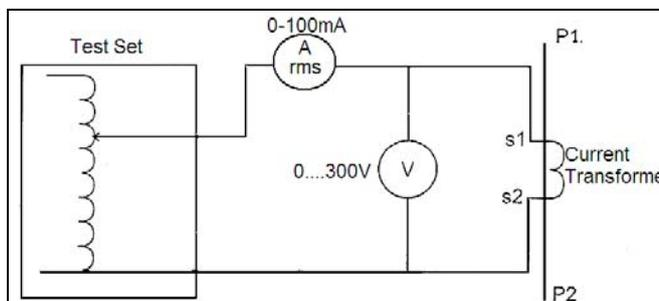

Figure 4.7: Connections for Magnetisation curve test.
- Connect the test equipment to the CT under test as shown in Figure 4.7 selecting suitable scales on the volt and ammeter.